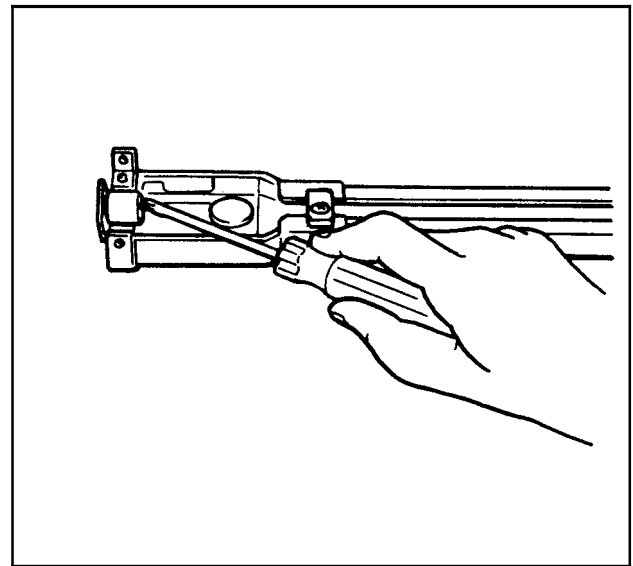

Fig. 9
10. Using a screwdriver or the handle end of the provided wrench, lift out and remove the temporary steel spacer from the motor pulley housing and discard. (Fig. 9)